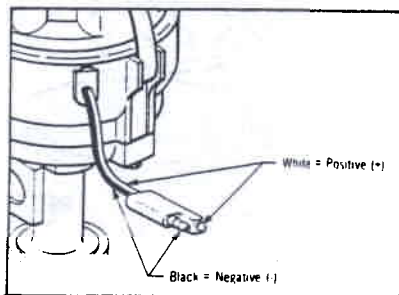

Fig. 1
1. By using the diagram (Figure 1), determine which hole the stop screw should be located in and which direction the arrow should be pointed for your distributor advance specification. For example, if you require advance of 14° (28° engine) and your distributor is right-hand rotation (clockwise), the stop screw would be placed in the bottom hole marked 14° and the "S" plate will be installed with the arrow pointing to the 10°-13° indication on the stop bracket. If you need to change from the factory setting, proceed.